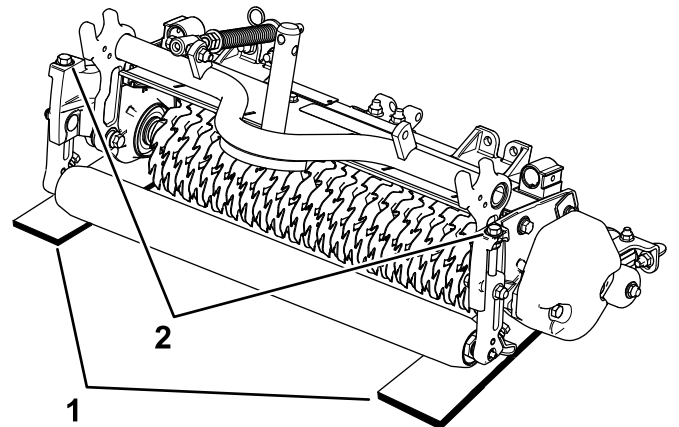

Figure 9
2. Place 2 gauge bars, which have the desired depth of blade penetration below the ground, under the front and rear rollers of the verticutter reel on each end of the reel (Figure 9).
3. Turn the adjusting bolt on each height-of-cut bracket (Figure 9) so that the verticutter blades come in contact with the level surface on both ends.